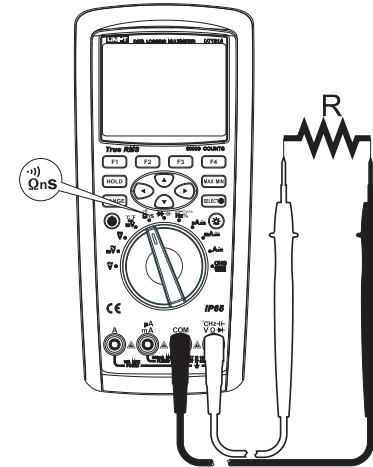

Figure 8
- 2) Set the rotary switch to the measurement Ω nS \rightarrow and current Ω is the default resistance measurement as shown in Figure 8. Connect the test leads to both ends of the measured resistance.
- 2) Set the rotary switch to the measurement Ω_{ns} . press the key SELECT to select conductance measurement 60nS. Connect the test leads to both ends of the measured resistance as shown in Figure 8.
- 2) Set the rotary switch to the measurement Ω (S), press the key SELECT to select the continuity test (S). Connect the test leads to both ends of the measured resistance as shown in Figure 8. Press the function key MENU (Menu) to enter the menu items. If pressing the key SHORT (Menu), then the buzzer selects